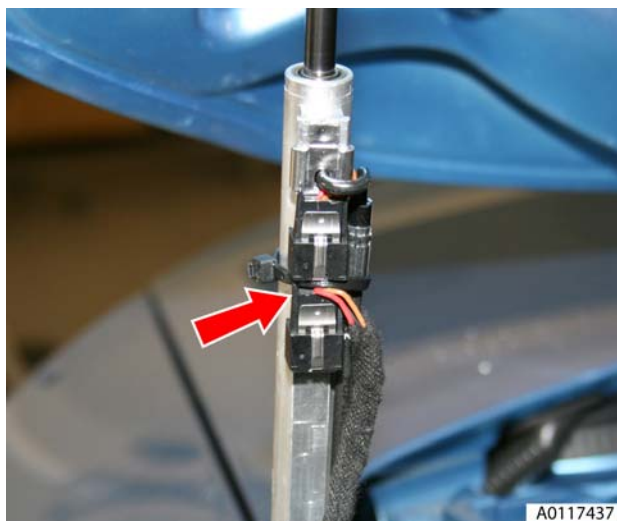

Figure 5
6. Release clips securing pipes to cylinder and disconnect pipes (see Figure 5).